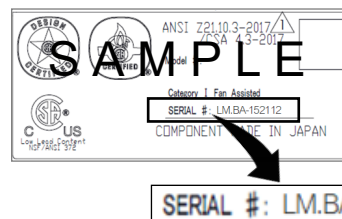

Fig 2. Sample Label with Serial Number. Label image is for illustrative purposes only. Your label may appear differently.
- The tankless water heater serial number is located on the left side panel label (Fig 2) of the tankless water heater.